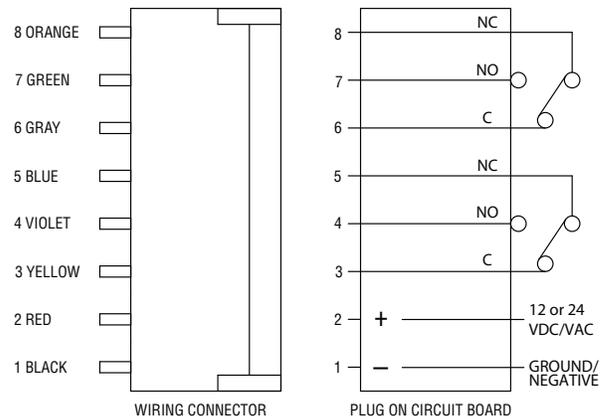

Fig. 2 Connector to Plug Orientation (Default Switch Settings)
1. Connect the wiring harness (provided) to the wire plug on the circuit board as shown in Fig. 2.